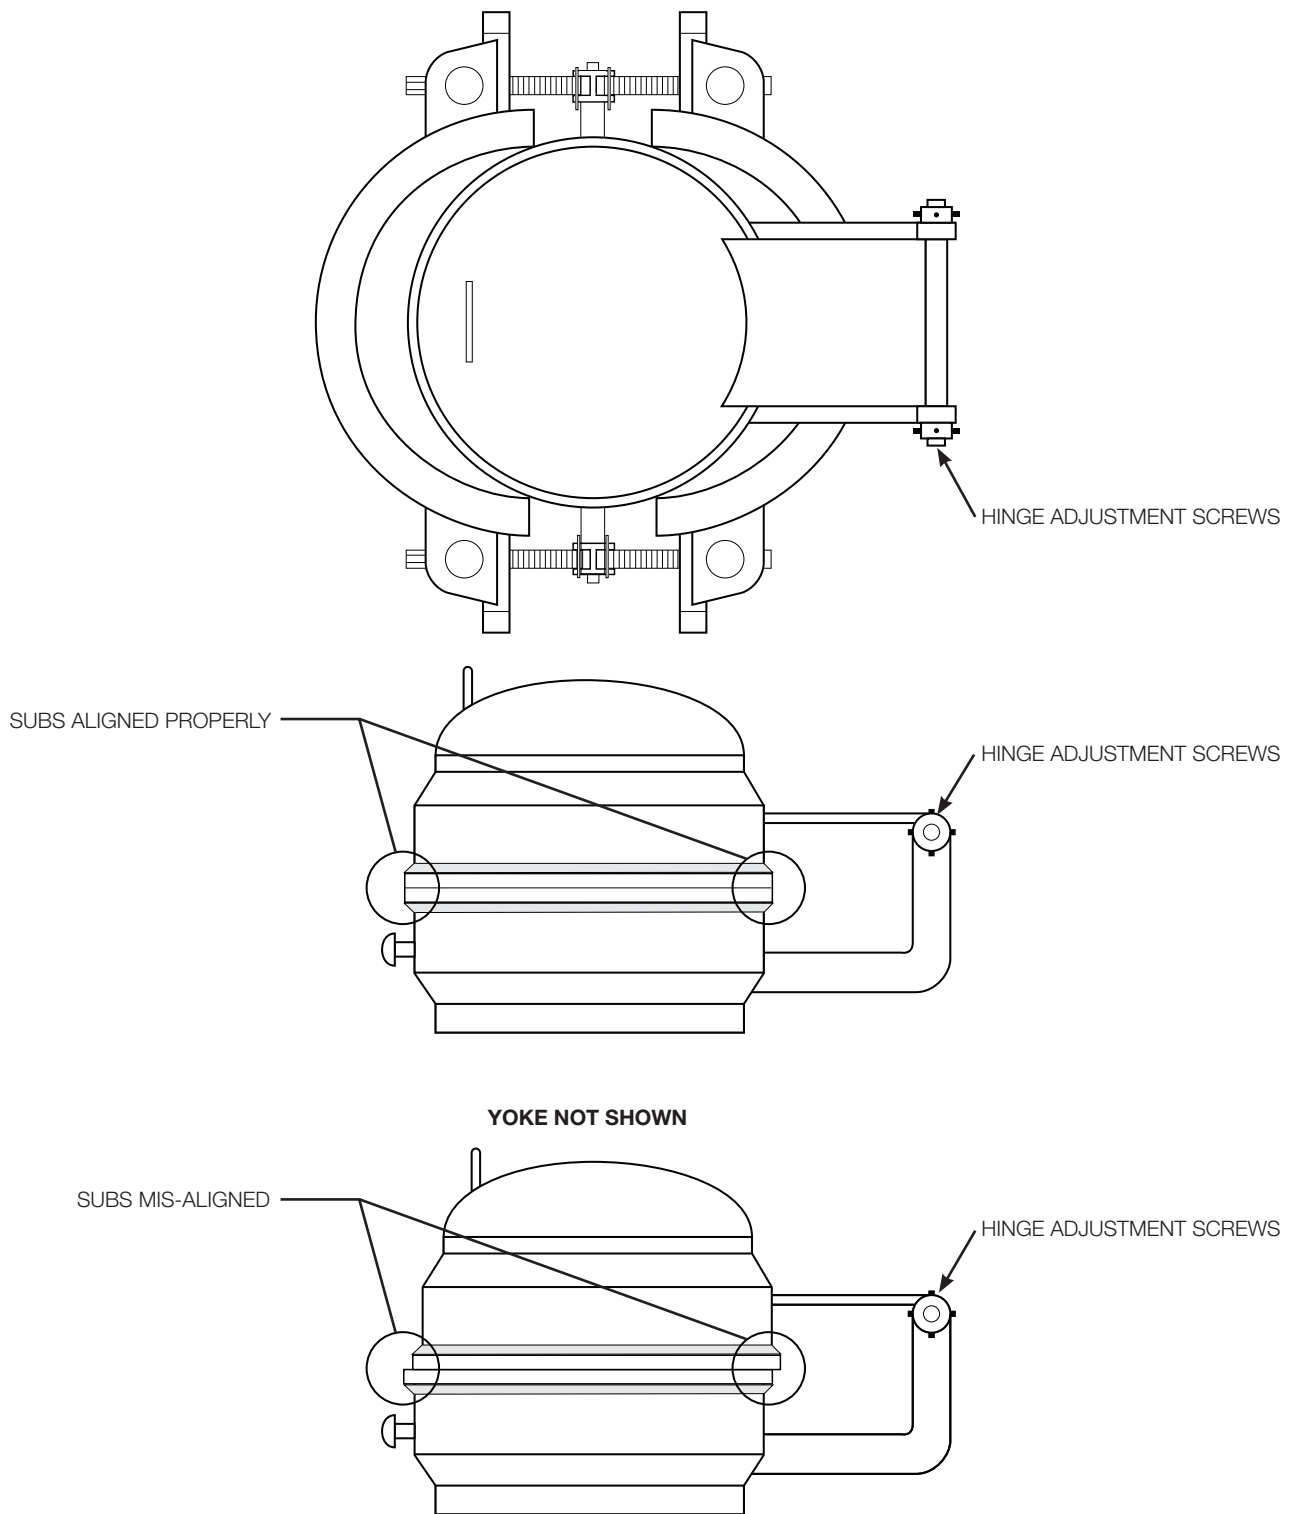

Figure 16: Subs Alignment Diagram
- 7.6.1 The Parker Quick Opening Closure is adjusted at the factory for proper operation. If you notice the head does not match the shell sub, it will be necessary to readjust the closure to maintain the ease of operation and insure proper sealing (Refer to Figure 16). This is accomplished in the following manner for horizontal closures: